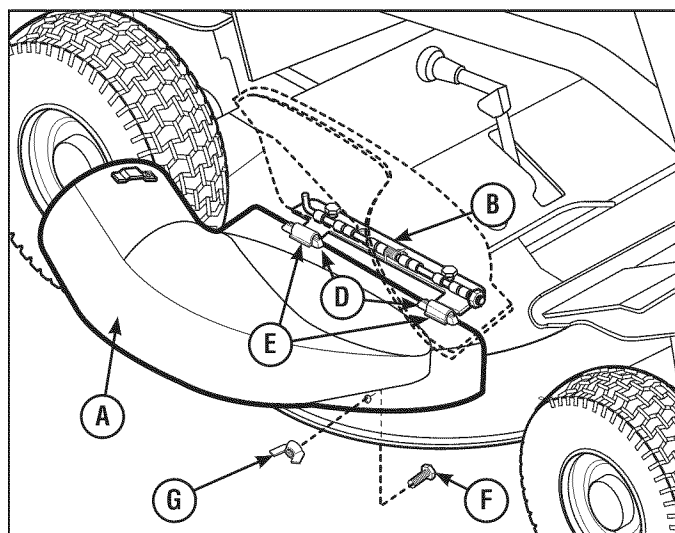

Figure 11
4. Slide lugs (D, Figure 11) into hinge lug retainers (E) to secure (A) on deflector hinge (B).
5. Secure adapter to the deck with bolt (F) and wing nut (G).